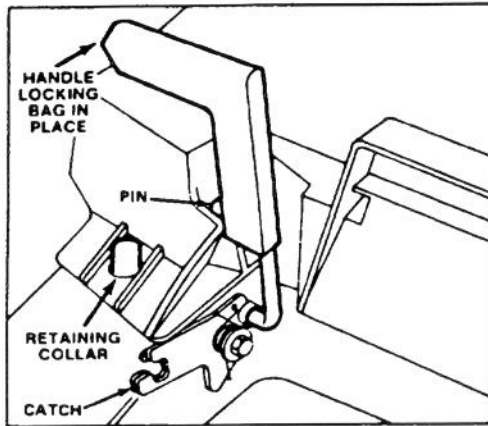

Figure 12
4. INSTALLING BAG — Slide hole in bag frame onto retaining collar on housing (Fig. 12) and set rear of bag frame onto lower handle.
5. Pull chute door handle forward until pin clears catch and move handle rearward until pin locks in bag notch (Fig. 12). Chute door in mower housing is now open. It may be necessary to push down on top right of bag door to release handle locking pin from catch.